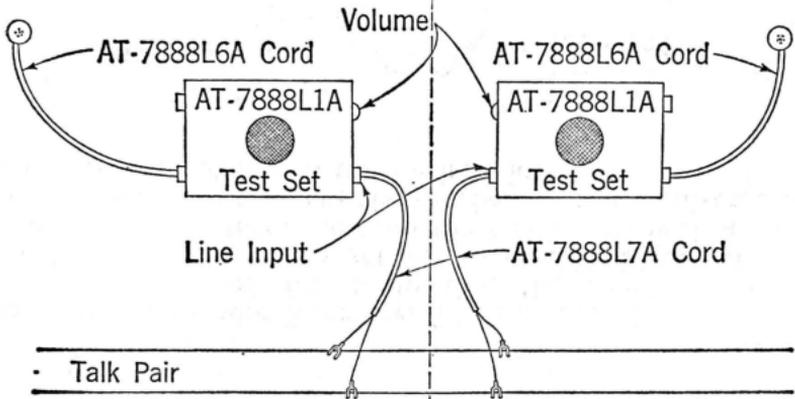

Fig. 7
4.06 **Two-Wire Talking Circuit:** The sketch, Fig. 7, shows the method of using the speaker set for talking over one cable pair for distances up to about 1000 feet. The volume control on each speaker set should be adjusted to the desired volume. If feedback (howling) occurs, reduce the volume to the point where the noise just stops. The tendency to feedback can generally be reduced by positioning the speaker sets as far from the microphones as practicable and by facing the sets away from the microphones. If this is not satisfactory, use the four-wire connection covered in Paragraph 4.07.